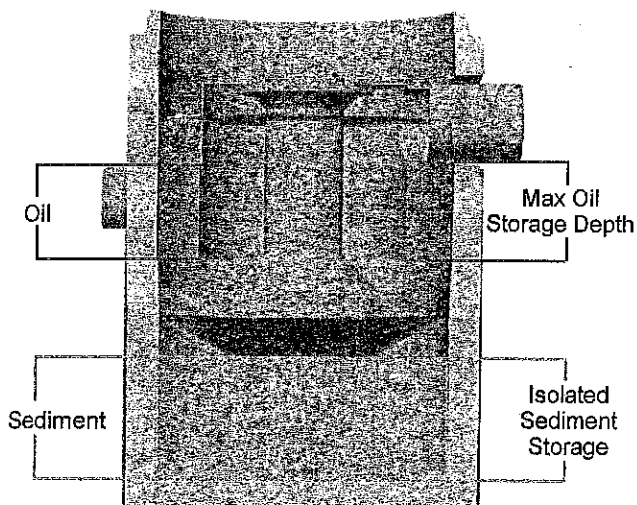

Fig.2 Pollutant storage volumes of the Downstream Defender®.
The internal components of the Downstream Defender® have been designed to protect the oil/floatingables and sediment storage volumes so that separator performance is not reduced as pollutants accumulate between clean-outs (Fig.2). The Downstream Defender® vessel remains wet between storm events. Oil and floatingables are stored on the water surface in the outer annulus separate from the sediment storage volume in the sump of the unit providing the option for separate oil disposal, and accessories such as adsorbent pads. Since the oil/floatingables and sediment storage volumes are isolated from the active separation region, the potential for re-suspension and washout of stored pollutants between clean-outs is minimized.
1. Refer to Downstream Defender® Clean-out Detail (Fig.2) for measurement of depths.